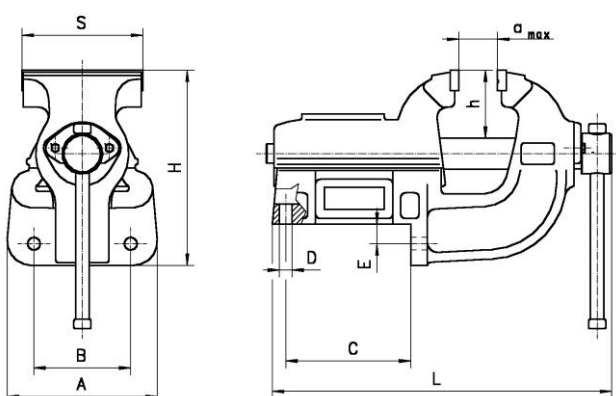

Fig.1
- a / fixed vice type 1240 (fig. 1, table I) with prism guideway,
Fixed bench vices with prism guideway type 1240 fig. 1, table I are high quality vices of rigid cast-iron structure and high impact resistance designed for very hard locksmith works.